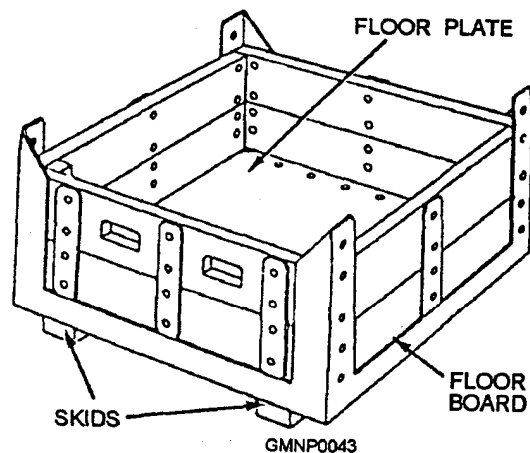

Figure 2-28.—Skip box.
**SKIP BOX.**— The cargo-handling box (skip box) (fig. 2-28) is made of wood except for the iron corner angles and stiffeners. This type of handling device is ideal for handling ammunition that is light enough to be handled by hand. The cargo-handling skip box is also used ashore and afloat. The heavy timber skids underneath permit the use of forklift trucks or slings to handle the box.